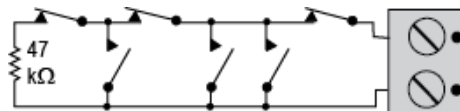

Figure 4. E.O.L. Wiring Example
2.2 Auxiliary Input Wiring (Fig. 4)
Normally Closed (N.C.) sensor contacts can be used, as shown in Figure 4. A 47kΩ E.O.L. resistor must be wired at the far end of the zone loop.